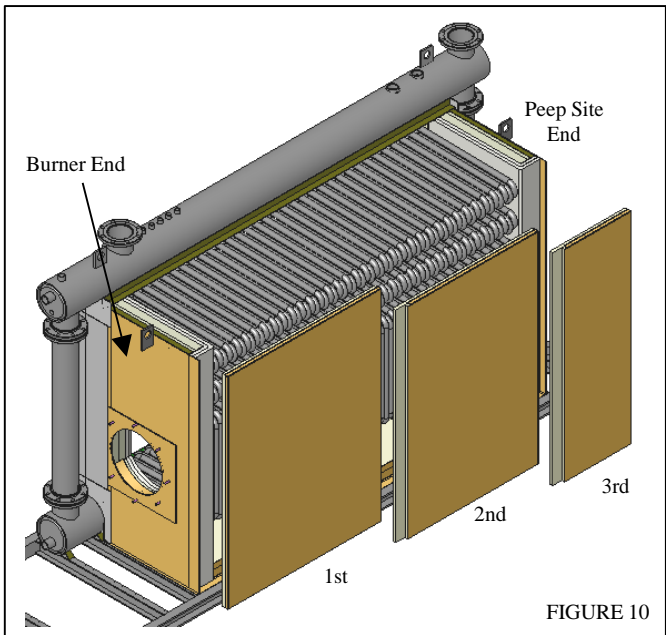

FIGURE 10
3.10 Install the flue collector side panels starting from the burner end. See figure 10. Once again, you will notice the color-code system. This assures you that once the colors are in alignment, the flue collector sides are installed exactly the same way they were installed at the factory. If these parts are installed incorrectly, the colors will not be in alignment. Also note the tack welds from the factory help on this alignment. **NOTE:** *Make sure that the flue collector side panel insulation is up tight against the rear of the tubes.*